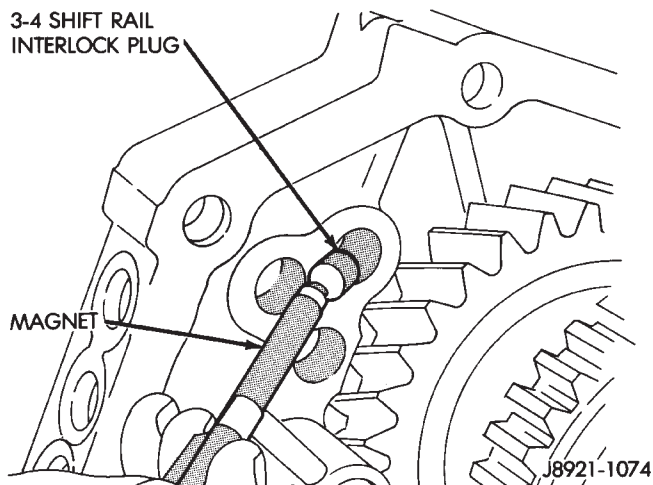

Fig. 72 Remove 3-4 Shift Rail Interlock Plug
(24) Remove the 3-4 shift rail interlock plug from the intermediate plate with a small magnet (Fig. 72).